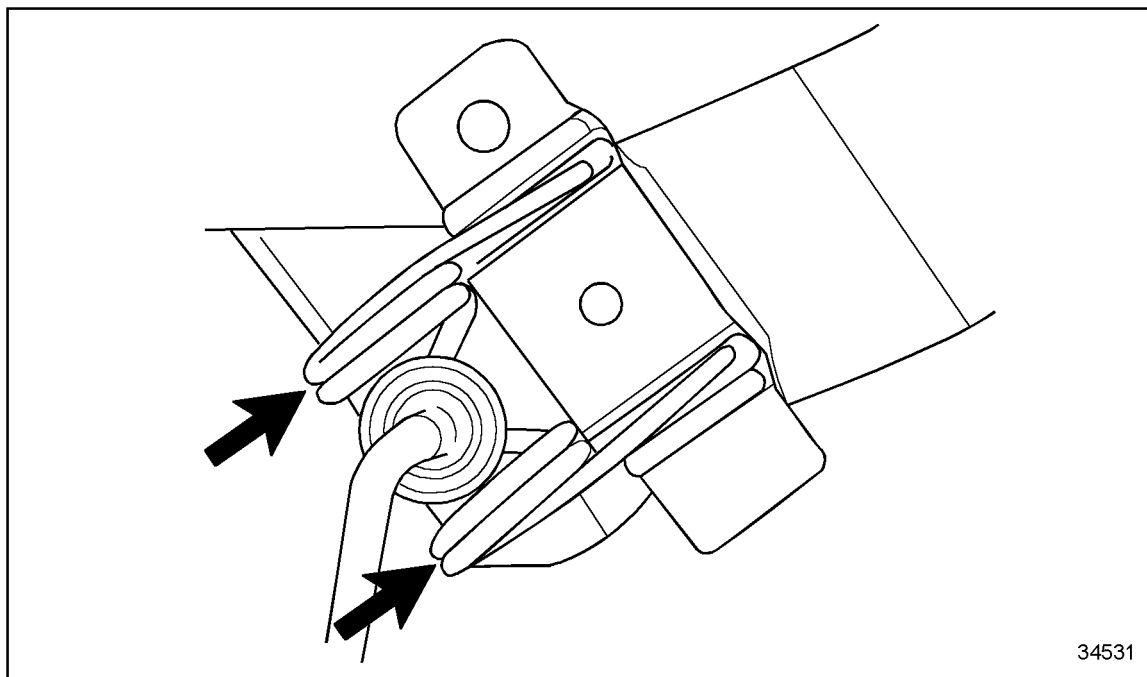

Figure 1-434 Installing the Slave Piston Assembly Torsion Spring
4. Install the slave piston assembly torsion spring with the ends over the bridge. See Figure 1-434.